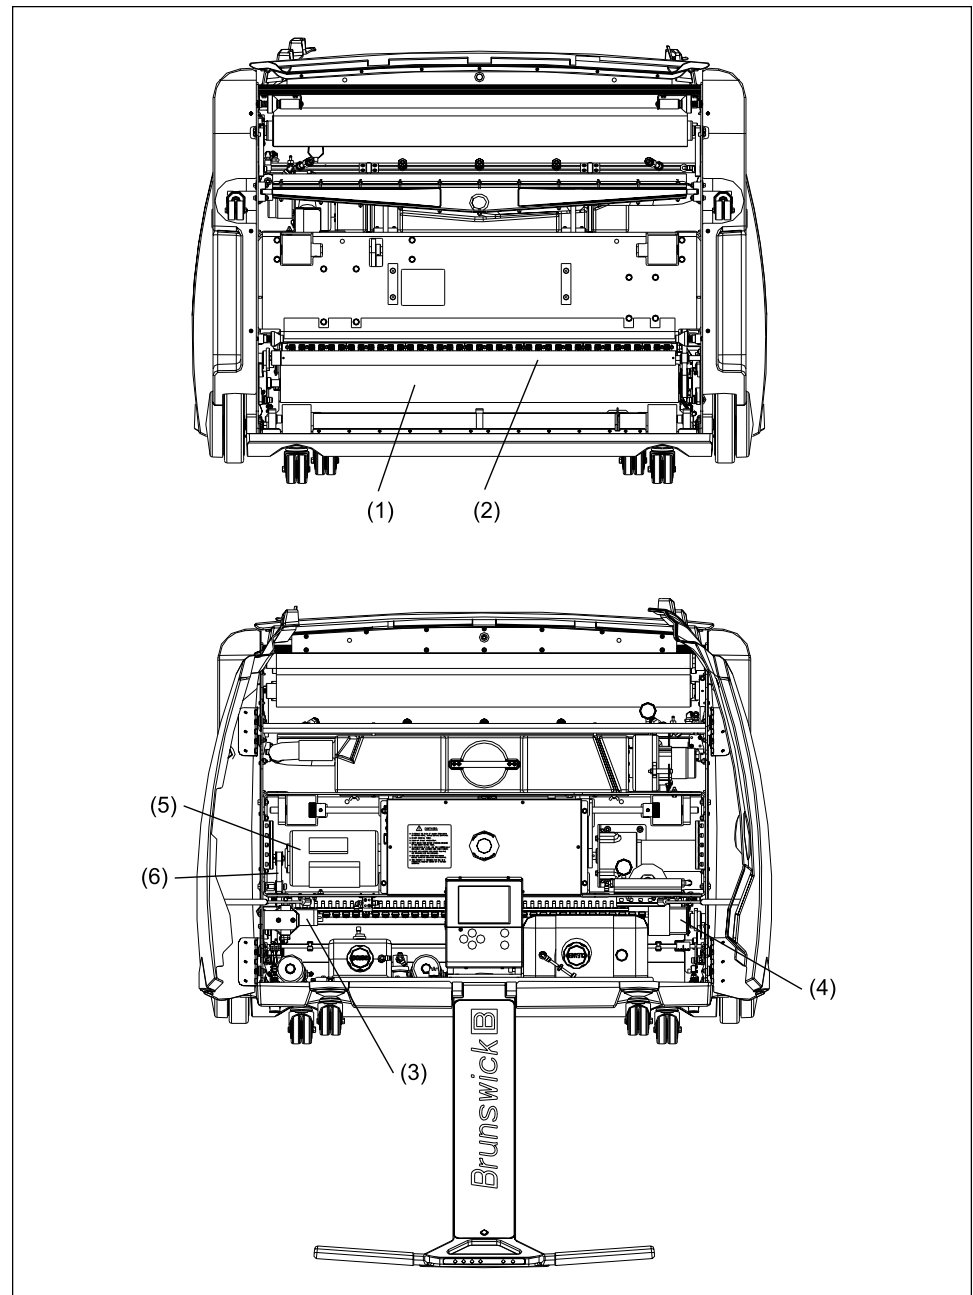

Figure 2-7. Buffing System
1. The **buffer lifting motor** lowers the **buffer brush** to the lane surface and the **buffer drive motor** rotates the **buffer brush** in the direction of forward machine travel (clockwise, when viewed from the right side of the brush assembly) blending the injected conditioner lengthwise on the surface of the lane. Refer to Figure 2-7.
2. The **dispersion roller** rotates in the opposite direction of the buffer brush, contacting only the buffer brush and blending the conditioner amongst the bristles through side-to-side oscillation. Refer to Figure 2-7.